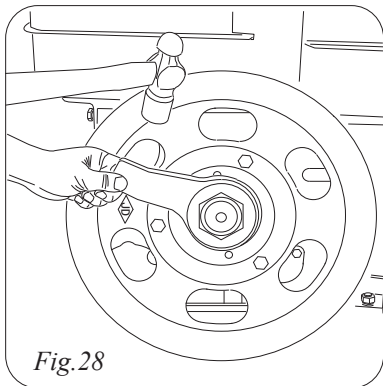

Fig.28
3. Loosen the flywheel nut by a special wrench (Knock the handle of the wrench with a hammer counter- clockwise, if necessary), but do not screw it off (Fig.28).